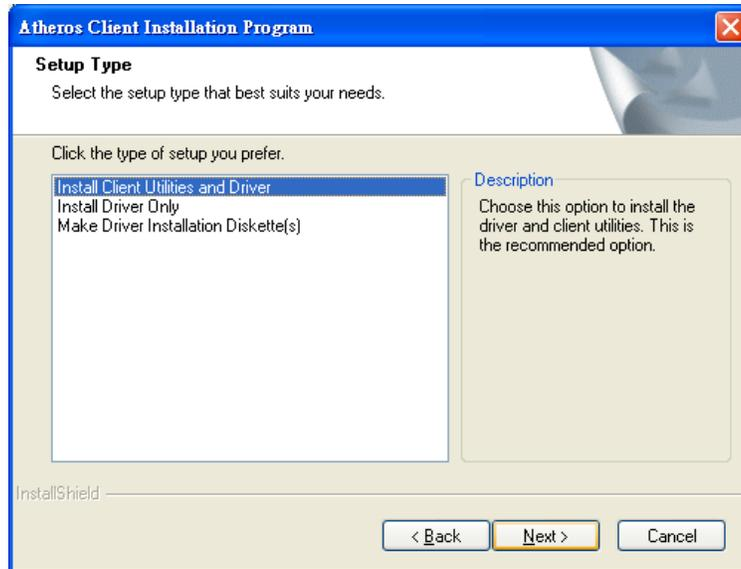

Figure 6-28: Wireless LAN Driver Setup Type
Step 7: The Setup Type screen in Figure 6-28 appears. Select the setup type to install and then click **NEXT** to continue.